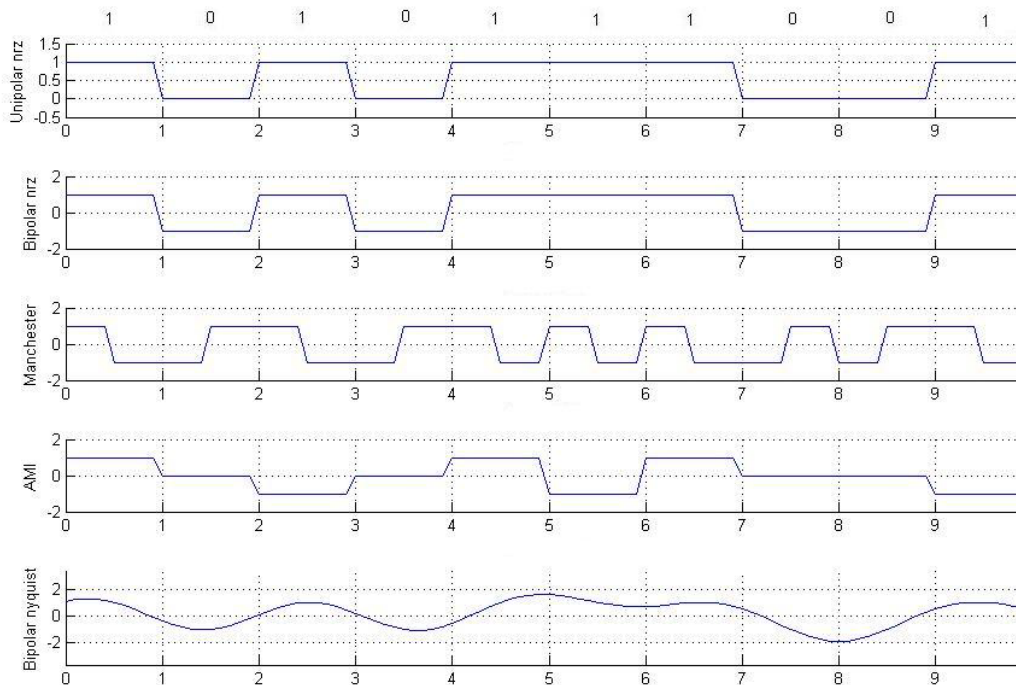

Figure 2. Line code waveform examples. Original binary sequence listed across the top is at a bit rate of 1, and applies to all codes.
The type of line coding is selected to meet various system criteria, such as power requirements, bit timings (additional transitions of the line code signals within the bit interval can help in timing recovery), bandwidth efficiency (excessive transitions may require more bandwidth than available), low frequency content (some channels block low frequency), error detection, and complexity. Figure 2 shows analog waveforms for various line coding examples.
1. Use the *modulb()* function to plot waveforms (similar to those in Fig. 2) representing the binary sequence $seq = \{0,1,0,0,1,1,0,0,0,1,1,1,0,0\}$ using the following line codes at a bit rate of $R_d = 1 \text{ kb/s}$ (choose a reasonable sampling rate for plotting the waveforms):